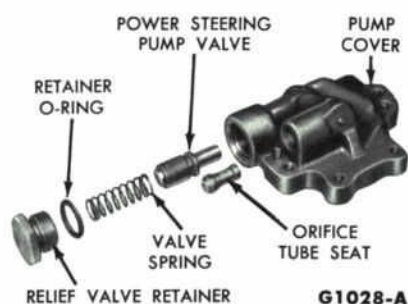

FIG. 27 — Pump Cover
5. Remove the relief valve retainer (Fig. 27) from the housing cover, and remove the O-ring from the retainer. Lift the valve spring out of the valve bore and slide the valve out. If the valve does not slide out, tap the cover with a soft hammer. Do not scratch or nick the valve when removing it from the cover.